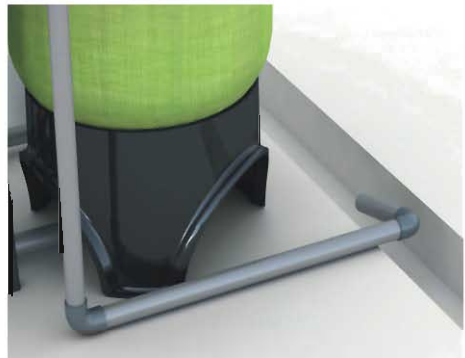

Figure 1-4
Insert drain line flow control into drain outlet, use UPVC glue to connect drain outlet with UPVC drain pipeline as Figure 1-4 shows.
- Be sure not connect drain with sewer, and leave a certain space between them, avoid wastewater be absorbing to the water treatment equipment, such as showed in the Figure1-4.